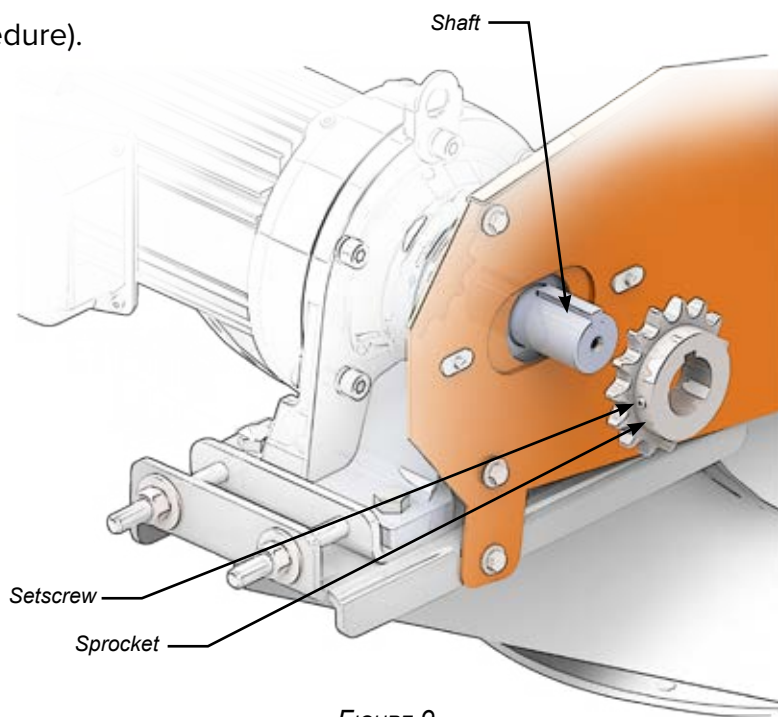

FIGURE 9
5. Remove the sprocket (see Figure 9).